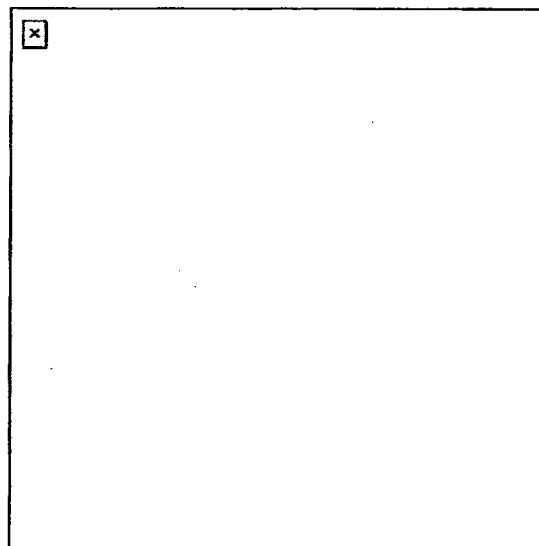

Figure 191-381-1369-6
- (1) Signal team member number 4 that you are ready to exit using nonverbal communication.
- (2) Wait until the team member number 4 gets into the correct position.
- (3) Tap your palm firmly on the back of team member number 4 signaling that you are exiting the cell.
- (4) Back out slowly, keeping your eyes fixed on the team and the internee.
- (5) State, "5 man, out," as soon as you are out of the cell (Figure 191-381-1369-6).